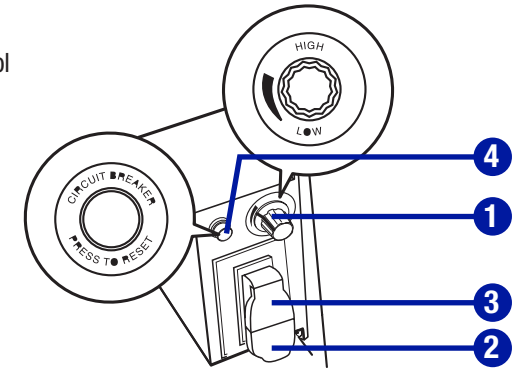

Fig. 8
**SPEED CONTROL KNOB (Fig. 8)**
**ON/OFF SWITCH (Fig. 8)**
The safety key (3) can be removed from the switch when it is in the Off position. With the key removed, the switch is locked in that position and the lathe cannot be started. Store the key in a safe place when the lathe is left idle (Fig. 8).
**RESET BUTTON (Fig. 8)**